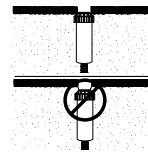

Figure 3
2. Thread the sprinkler onto a riser and set the head flush with the finished turf height (Figure 3).